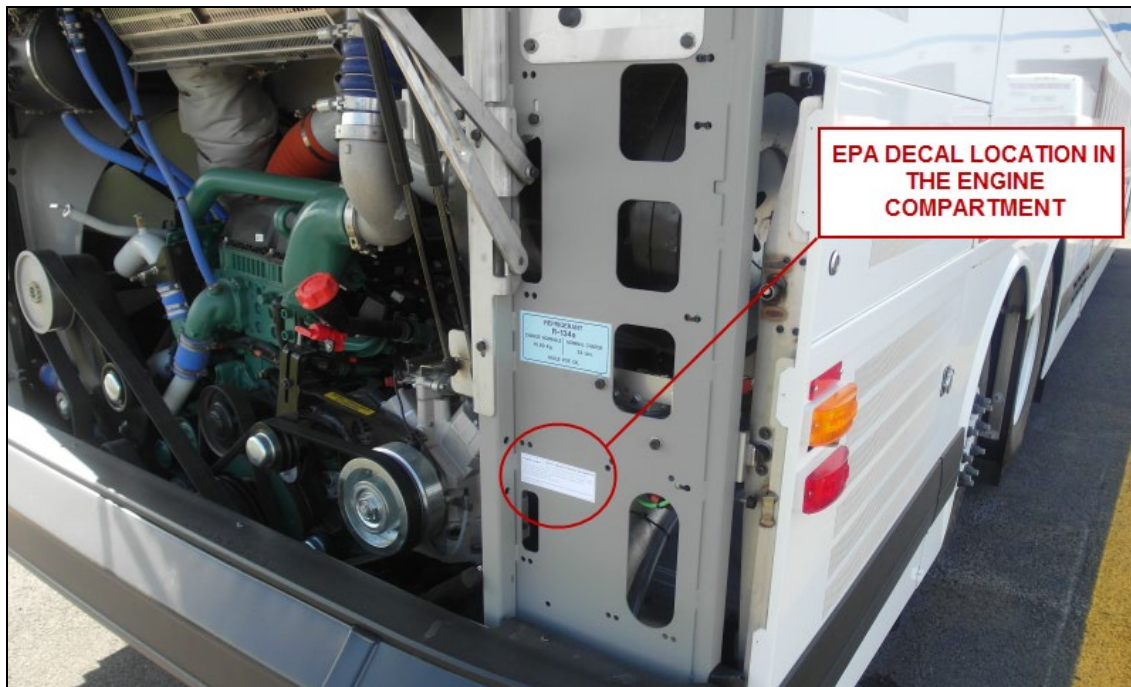

FIG.3 EPA DECAL LOCATION ON THE VEHICLE
2. Remove the vehicle EPA decal located in the engine compartment (see Fig.3). Do not install the new decal over the old one.